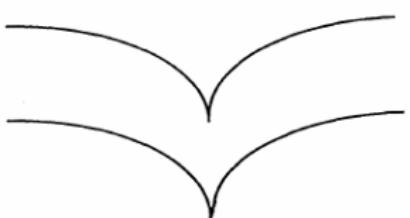

Figure 1. Nonunique normal directions
- (fig. 1) Orientation non-unique de la normale